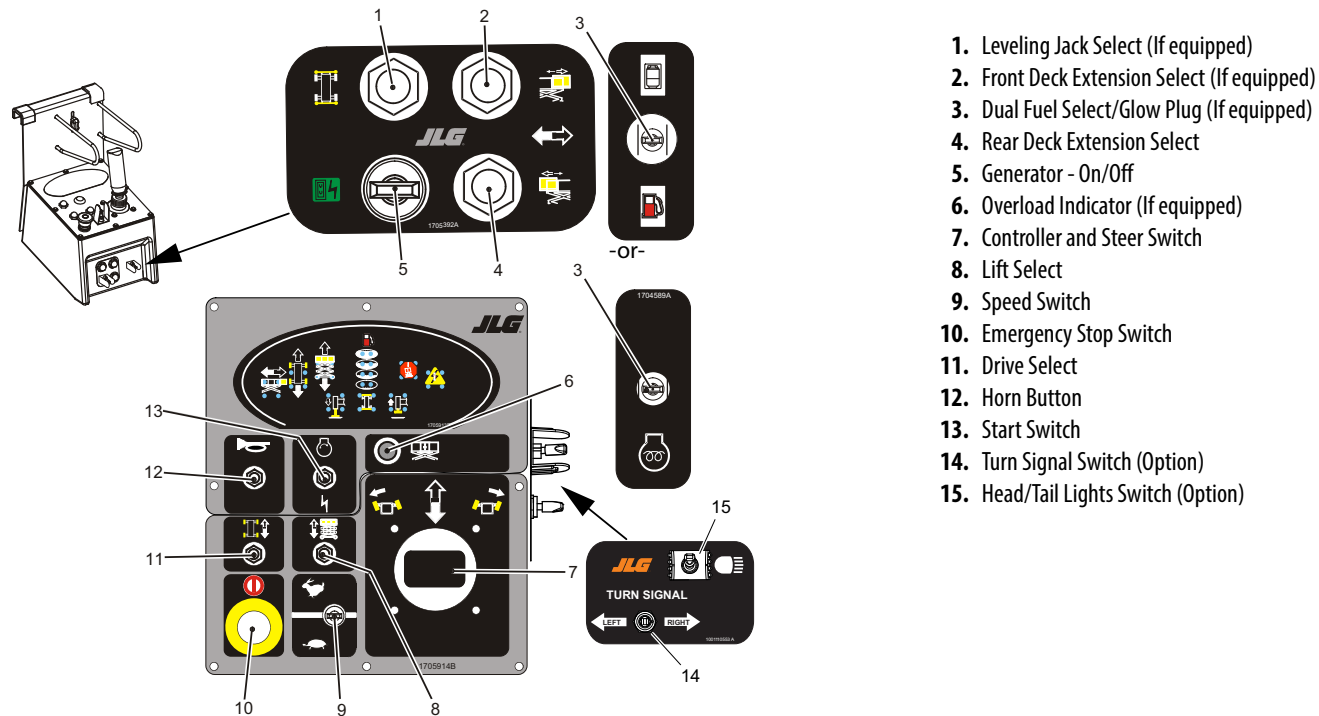

Figure 3-3. Platform Control Station
3.5 PLATFORM CONTROL STATION (SEE FIGURE 3-3.)